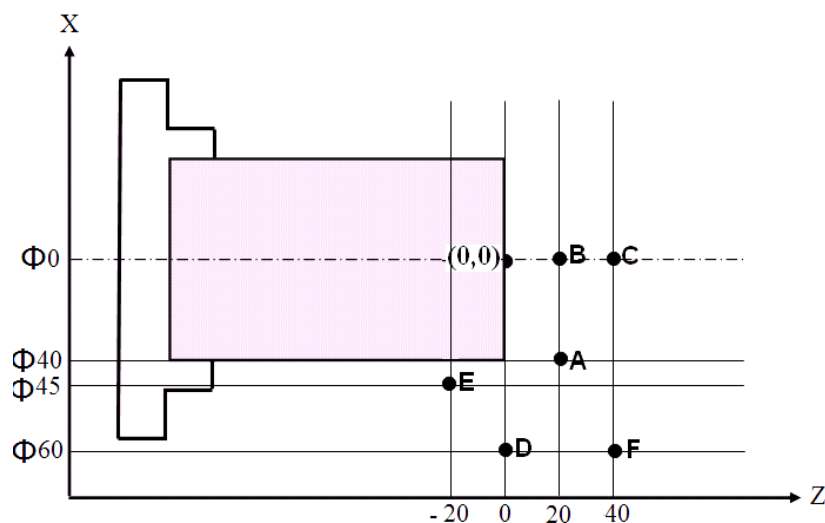

Fig. 2.23: Rapid positioning – G0
Open the prepared setup sheet “**Example 2**”. In the “**editor**” write the given *NC part program* using absolute dimensioning mode, to move the cutting tool in rapid positioning to the points shown below from (A) to (F) as shown in Fig. 2.23.